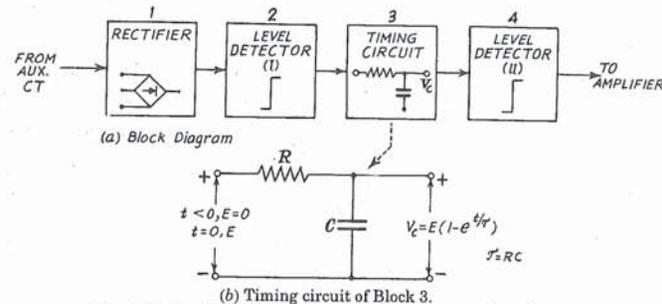

Fig. 40.6. Function of timing circuit in overcurrent time relay. (Ref. Fig. 40.5).
$RC = \tau$ = Time constant of RC circuit where R is Thevenins equivalent resistance viewed from capacitance. (Ref. Fig. 40.6)
Consider timing circuit (Fig. 40.6). When the output of rectifier reaches a threshold value, the level detector (1) gives output ray E (at $t = 0$). Before $t = 0$, the output of level detector (1) zero and there is no input to timer. As the level detector (2) acts voltage E is applied to timer. The capacitor starts getting charged. The voltage V_c increases exponentially. Suppose V_T is the threshold value of the level detector (4). Time required to reach this voltage depends upon time for charging the capacitor C given by,